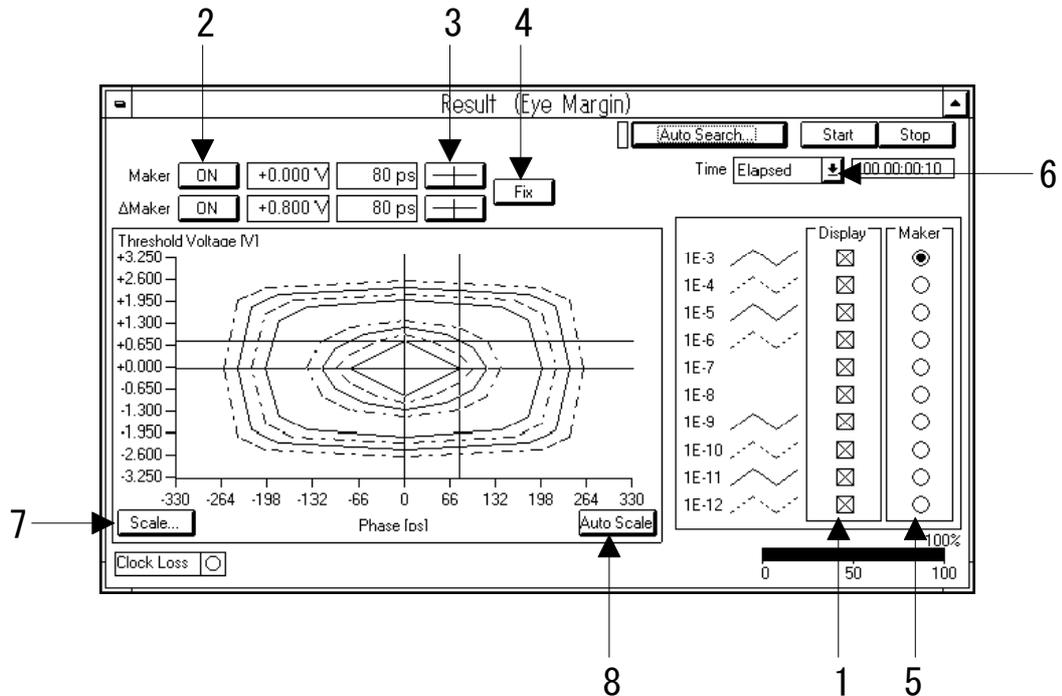

Fig. 6-9 Result window (during margin measurement)
4. Specify a marker movement mode. Press the button (see fig.6-9). The selected mode will appear on the button. There are the following two marker movement modes: